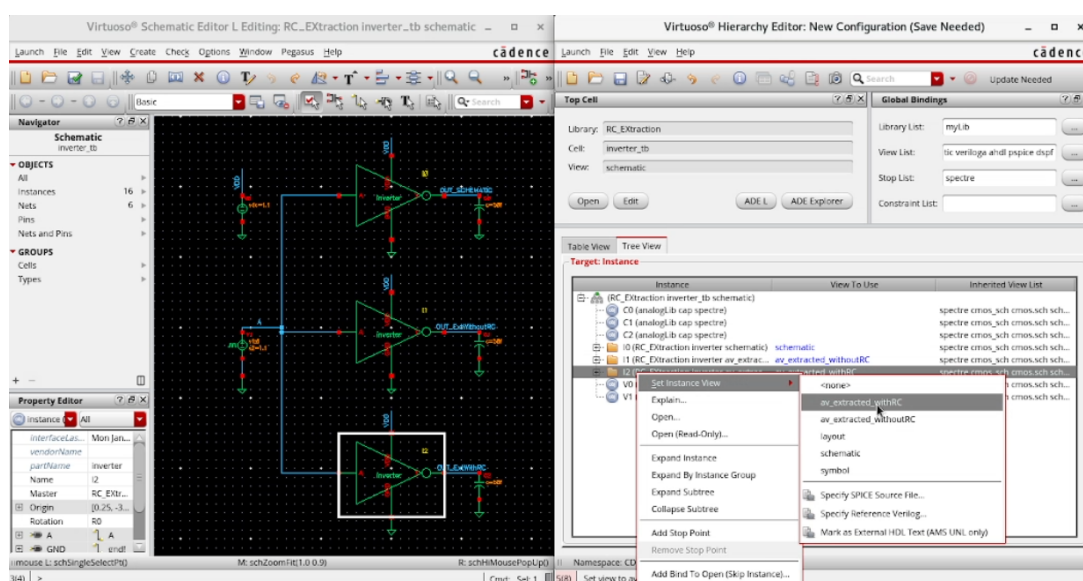

Figure 18: Set view to use for simulation.
3. Right-click on each instance, then navigate to **Set Instance View** and select the appropriate view for each instance (Figure 18).